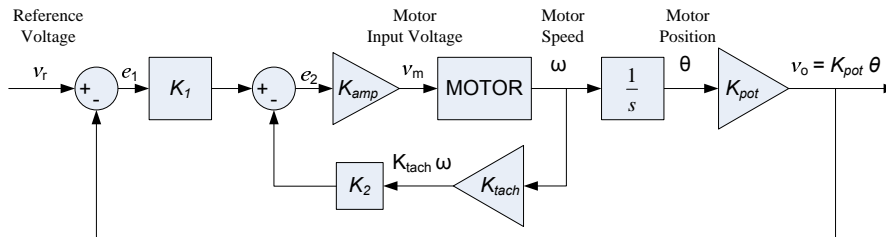
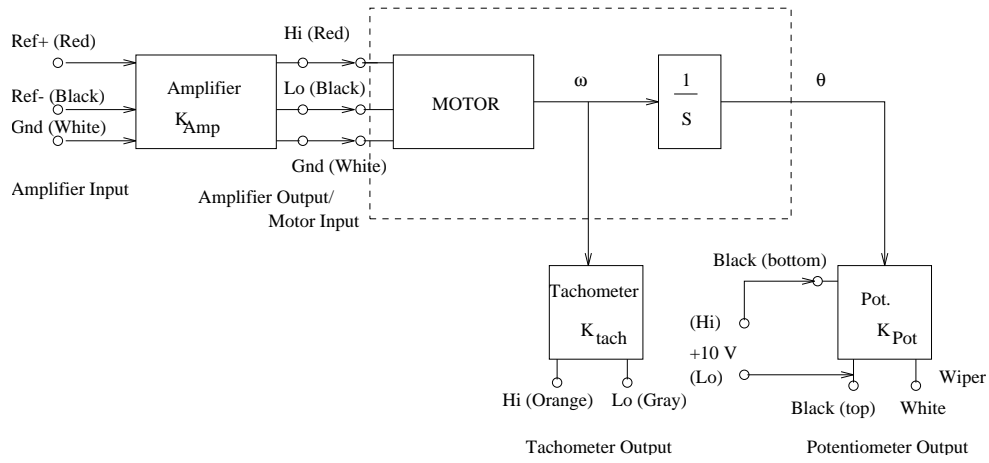
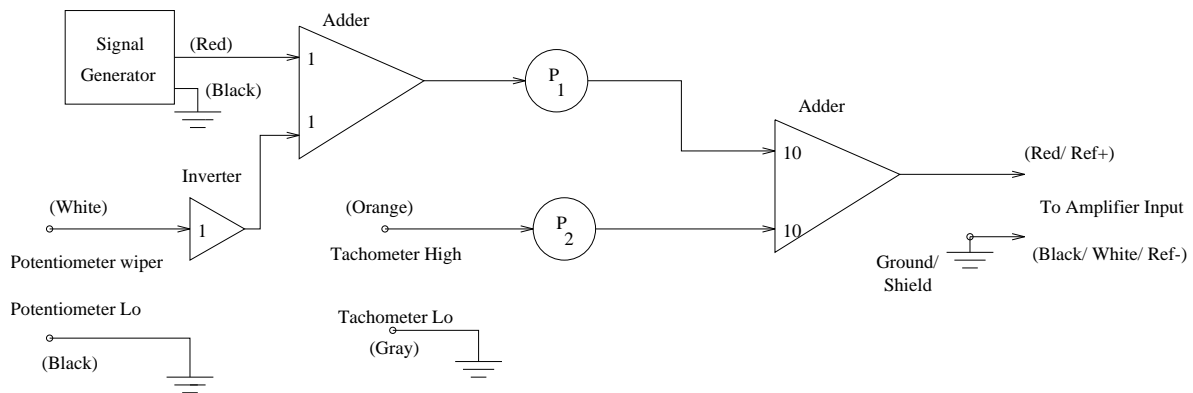

Figure 5.1. : A Feedback Control System for the DC Motor
Figure 5.2. : Motor Block Diagram.
Figure 5.3. : Analog Computer Wiring Diagram.
We next consider the design of a closed loop position control system using PD control. The structure is shown in Figure 5.1. For the sake of concreteness, assume from now on that the block MOTOR has the transfer function
In the lab, we will connect the system illustrated in Figure 5.2 to the analog computer set up shown in Figure 5.3, to create the closed loop system of Figure 5.1. We are then interested in the voltage from the potentiometer, the output of the system, and how it behaves as the reference input voltage v_r is varied. This reference input will be supplied by the HP waveform generator.
- (e) Draw a patch panel wiring diagram for the analog computer setup shown in Figure 5.3 (P_1 and P_2 are variable). (This diagram implements the PD control law.)
7. To understand what portion of the control loop is accomplished in SIMULINK, refer to Figure 5.1. The inputs to the PC are $V_{pot} = v_o$ and $V_{tach} = K_{tach} \cdot \omega$, and the output from the PC is e_2 . Therefore everything between the inputs and the output will be done in software. You will also output v_r for display on the oscilloscope.
The coefficients you find will be somewhat larger than those in lab 4. This is mostly due to the addition of the potentiometer to the system. Record these gains in Table 5.1, and demonstrate the running system to your TA. (*Comment:* As the foregoing in the previous paragraph, the (b) and (c) gains obtained are not perfect for friction compensation. But it can reduce observed friction. In terms of resulting transfer function $\frac{\Omega(s)}{V_m(s)} = \frac{K}{1+\tau_m s}$ in Figure 5.1, the damping caused by (b) term is reduced so that new responses would be expected to be faster due to less friction. Since you have a new MOTOR block transfer function here (with compensation turned on, hence less damping), what you really have to do in Step 6 below is to go back to prelab 5 and re-calculate the open-loop transfer function and re-design controllers K_1 and K_2 based on root locus method. However since lab time is limited and we want to make your life
1. Using K and τ from the motor model given on page 42, compute theoretical values of ζ , ω_n , M_p , t_r , and t_s for each value of P_1 and P_2 , for the system in Figure 5.1. Use the formulas on page 13.